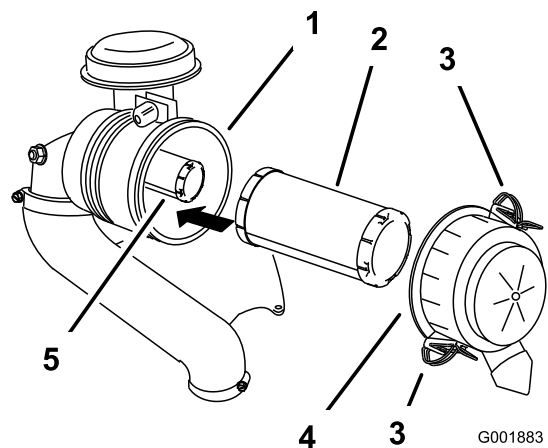

Figure 44
3. Release the latches on the air cleaner and pull the air cleaner cover off the air cleaner body (Figure 44).
- Gently slide the primary filter out of the air cleaner body (Figure 44).
- If the safety filter is being replaced, carefully slide it into the filter body (Figure 44).
- Carefully slide the primary filter over the safety filter (Figure 44).
- Install the air cleaner cover with the side indicated as up facing upward and secure the latches (Figure 44).